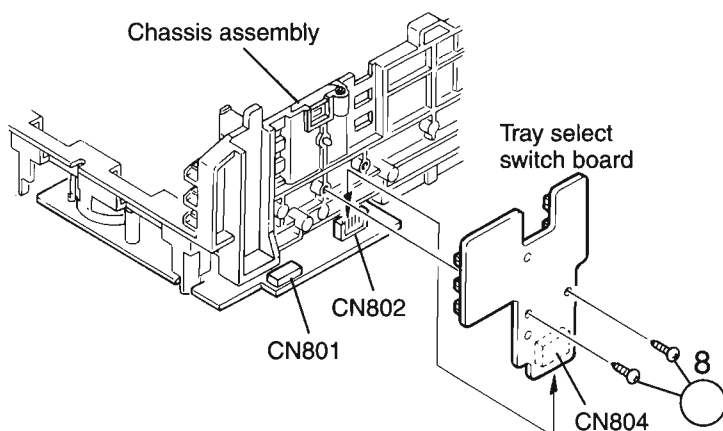

Fig.15
3. Remove the two screws 8 retaining the tray select switch board(See Fig.15).
■ Removing the can unit (See Fig.15 ~18)
2. While turning the cam gear L, align the pawl "N" position of the drive unit to the notch position(Fig.15) on the cam gear L.